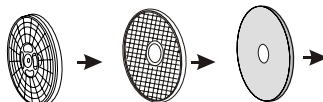

Figure 3
4. Align bracket as shown in Fig. 3 and fasten screws tightly.
After cleaning, assemble in the sequence of 'exhaust filter - filter-exhaust vent shroud', align the recesses in the center of filter with the projection in the center of drum and make sure that it is firmly inserted (as shown in figure 3).